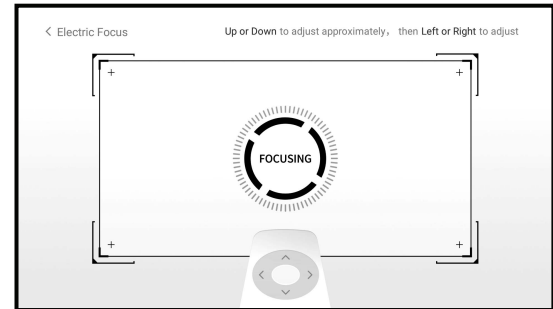

Fig. 14 Focus adjusting image
| ① | "①" in Fig. 14 is the distance between the back end of the main unit and the screen | ② | "②" in Fig. 14 is the height of the top of the main unit relative to the bottom of the screen |